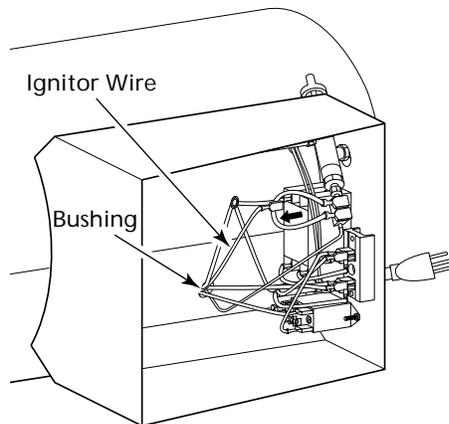

Figure 11 - Removing Ignitor Wire from Spark Transformer
2. No spark at ignitor. To test for spark, follow step 8 under Ignitor , page 13. If you see spark at ignitor, have heater serviced by qualified service person. If no spark seen:	2. A) Check ignitor wire. Tighten or reattach loose ignitor wire. See Figure 11, page 9 for ignitor wire location